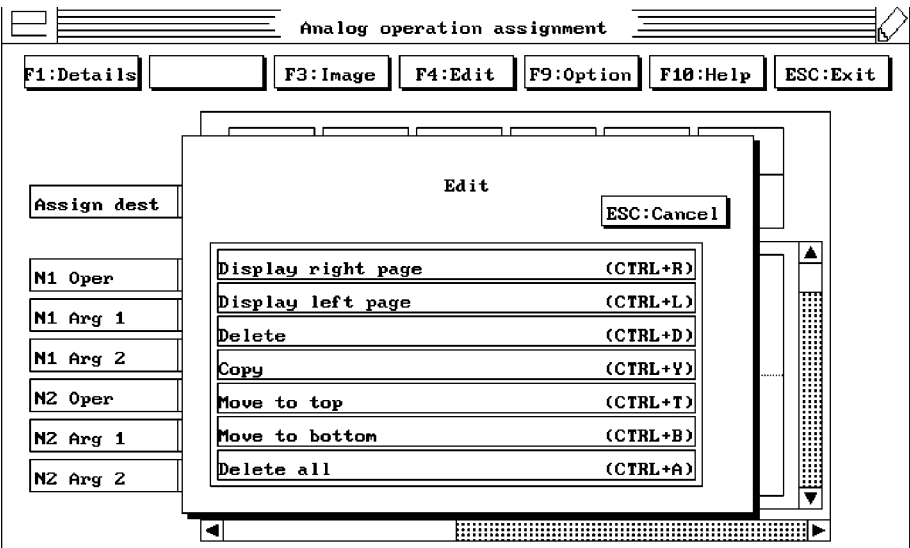

Figure 5
3. Select **F4: Edit** and you will see the following screen (Figure 5):